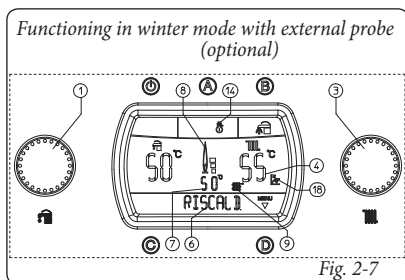

Fig. 2-7
During the request for environmental heating "HEATING" (Fig. 2-7) appears on the display (24) on the state indicator (6) and at the same time as burner ignition the flame presence indicator switches on (8) with relative power scale and the indicator (9 and 7) with the instantaneous temperature in output from the primary heat exchanger. In the heating phase the boiler, if the temperature of the water contained in the plant is sufficient to heat the radiators, can only function with the activation of the boiler circulation pump.